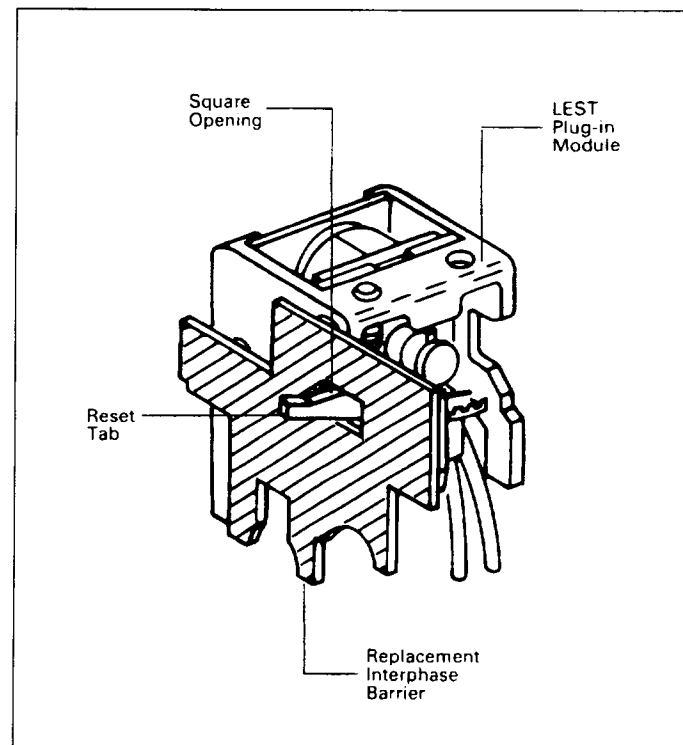

Fig. 2-6. LEST and Interphase Barrier Installation (Thermal magnet circuit breakers only)
- f. Put tip of LEST reset tab through square opening in replacement interphase barrier. (See Fig. 2-6.)